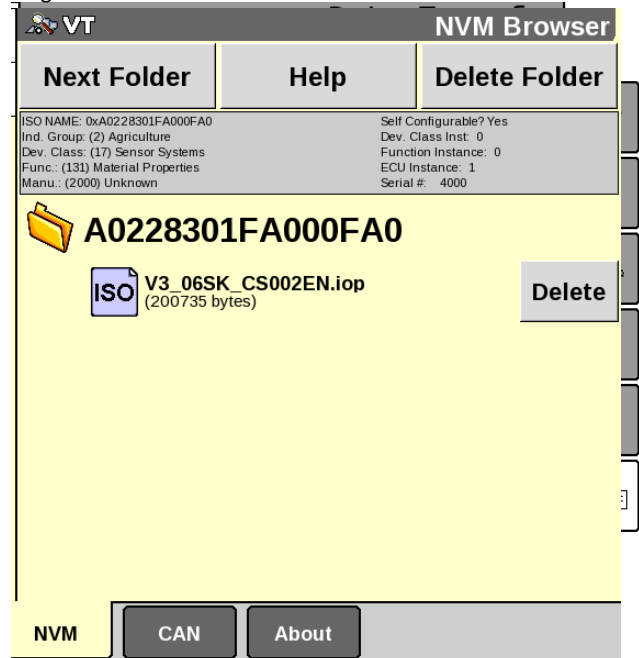

Figure 6.6 NVM Browser screen.
- iii. Delete the VT Object pool before updating the CropScan 4000VT App. Access the Diagnostic's menu from the combine monitor. Select the VT option NVM browser and delete the CropScan object pool as shown in figure 6.6.